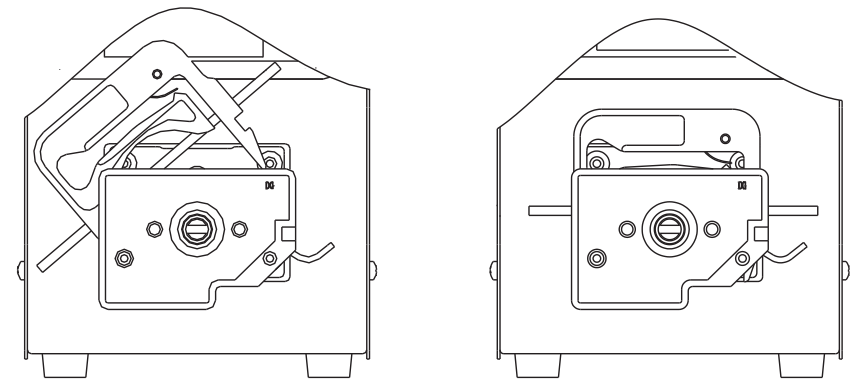

Figure 5 Card Installation
- Install the card into the pump head, as shown in Figure 5.